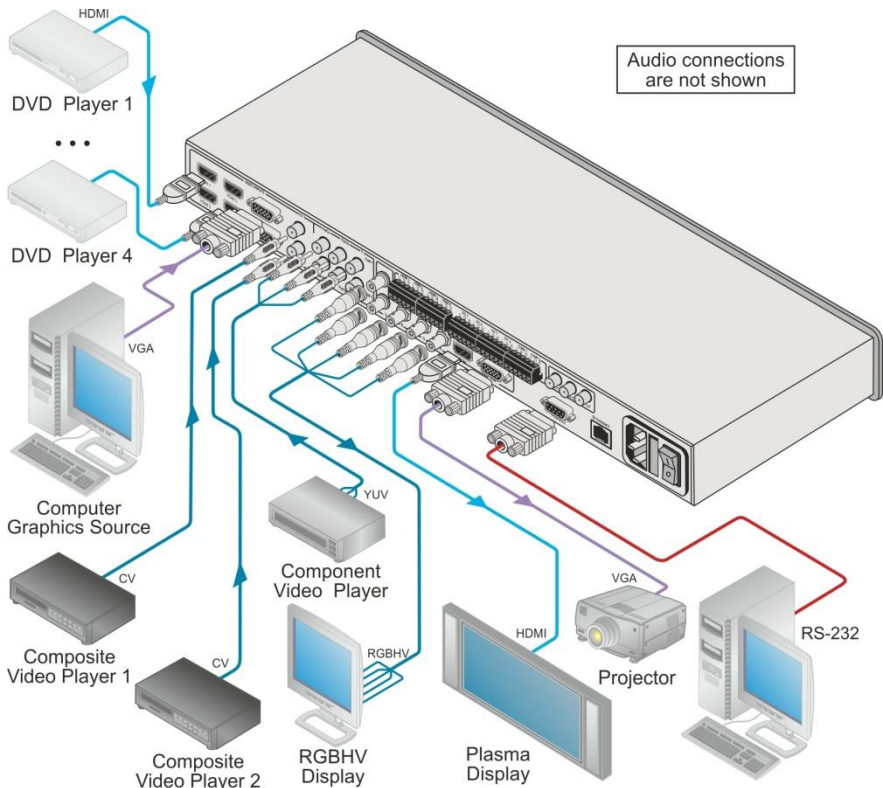

Figure 3: Connecting the VP-443 Presentation Switcher / Scaler
To connect the **VP-443**, as illustrated in the example in Figure 3, do the following:
5. Connect the audio input signals to the AUDIO IN terminal block connectors, as required (not shown in Figure 3).
9. Connect the audio output signals to the OUT stereo analog audio acceptor and/or the digital audio acceptor, as required (not shown in Figure 3).
10. Connect the power cord (not shown in Figure 3).